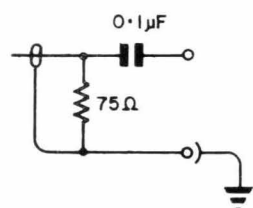
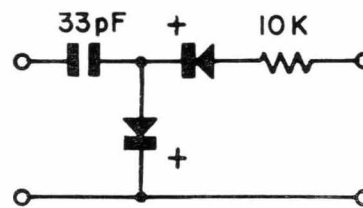

Fig. 1
Fig. 2
2. Injection Probe (Fig. 1)
5. Detector (Fig. 2)
- (a) Inject 5.5 MHz sweep through probe of Fig. 1 to junction of L112 and R119 (base of TR105). Connect detector (Fig. 2) to collector of video output (TR106) and connect display unit to output of detector.
2. I.F. injection probe (Fig. 1)
- (c) Using probe of Fig. 1 and attenuator, inject I.F. sweep into last I.F. by connecting between junction of R109 and R110 and earth.